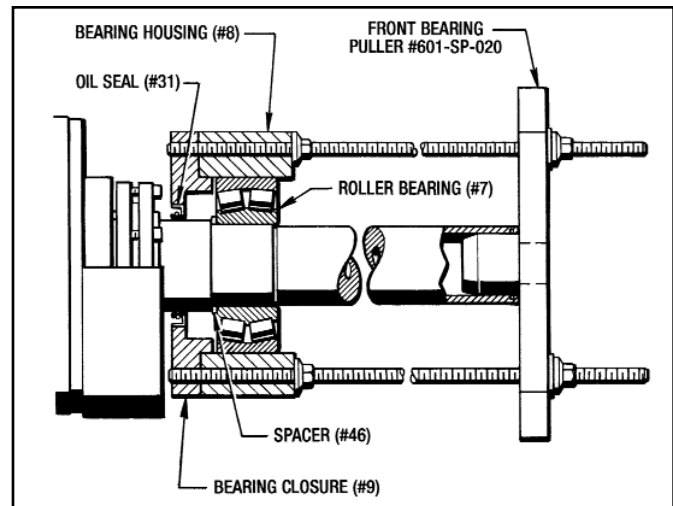

Figure 6.1 - Front Bearing Puller
5. Attach the Front Bearing Puller #601-SP-020 and pull the whole front bearing loose from the Vibrator Shaft (#1) as shown in Figure 6.1.